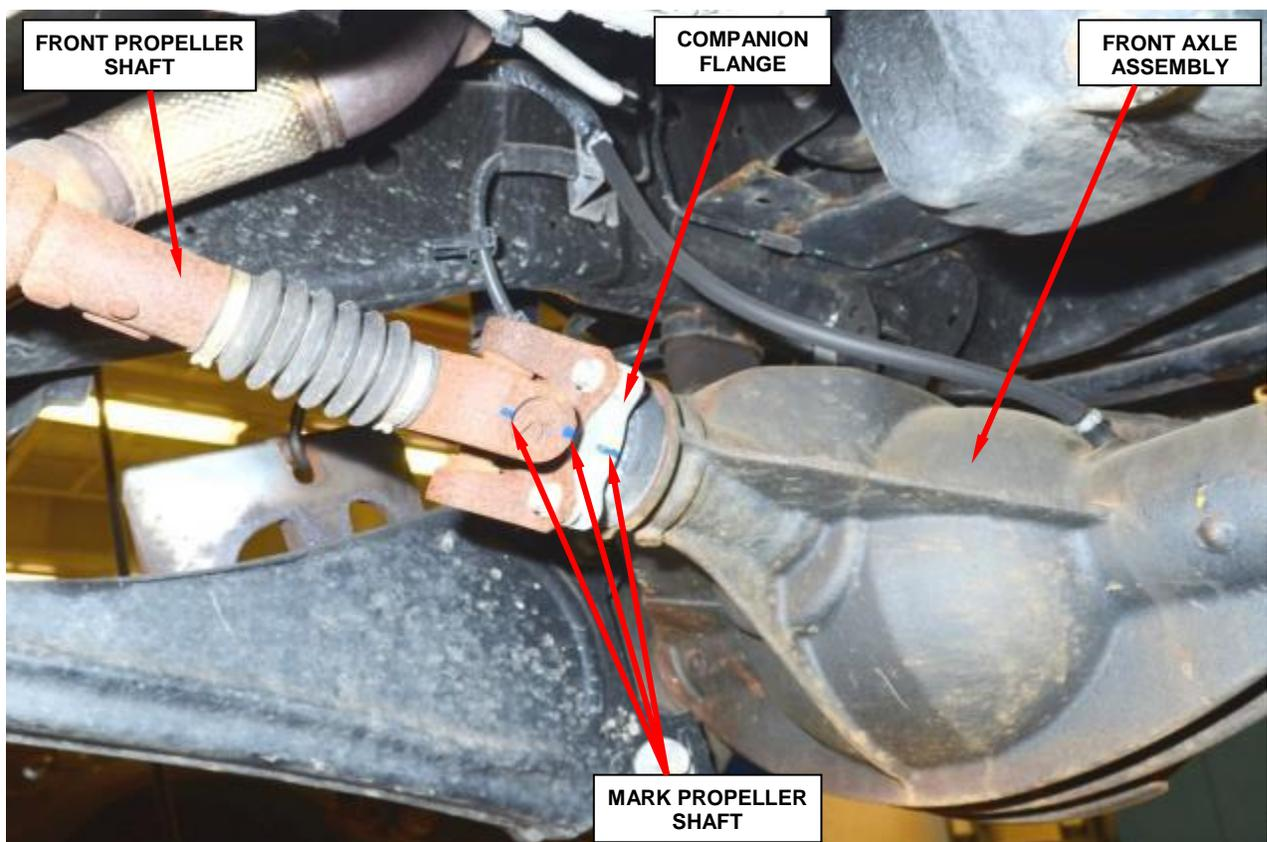

Figure 69 – Mark Front Propeller Shaft
11. **For vehicles with four wheel drive**, mark and then disconnect the front propeller shaft from the front axle companion flange (Figure 69).